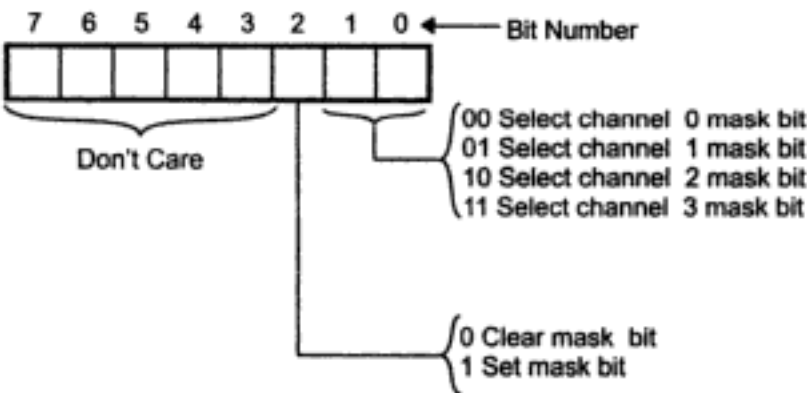

Fig. 6.19 Mask register
6. Mask Register : Each channel request can be individually masked by setting the proper bit pattern in the mask register. Fig. 6.19 shows the bit patterns of the mask register.